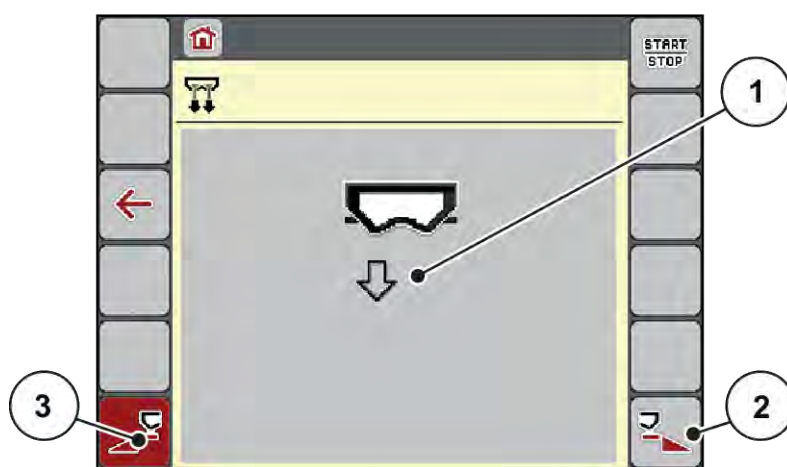

Fig. 26: Menu Fast emptying
*The selected section is displayed as an icon (Fig. 26 position [3]).*